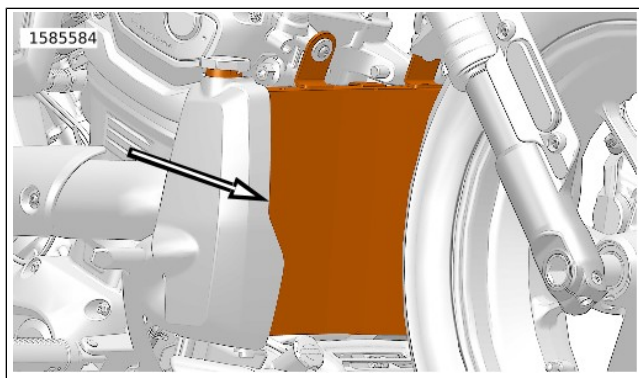

Figure 55. Radiator (Typical)
1. See Figure 55. Clean debris from radiator fins.